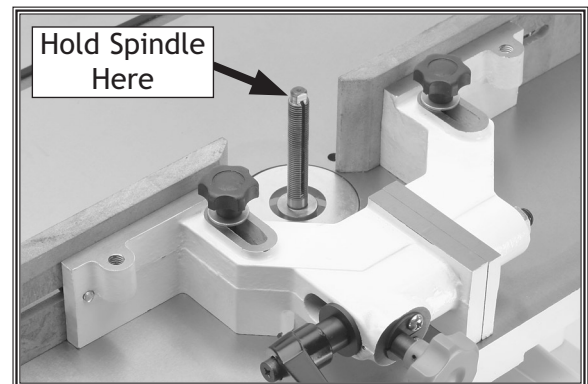

Figure 13. Wrench location on spindle.
13. Place an 8mm open-end wrench on top the spindle (see **Figure 13**).